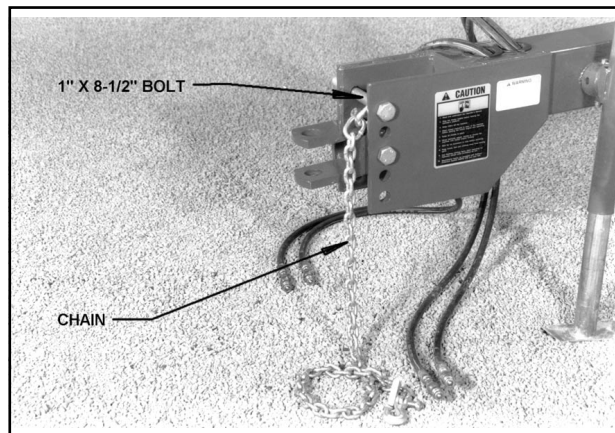

Figure 4-10 Transport Safety Chain
- a. Attach transport safety chain to chisel plow hitch with 1" x 8½" bolt furnished with machine bundle. Tighten bolt securely (See Figure 4-10).